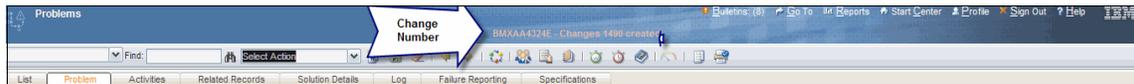

Figure 6-10 Change ticket number
4. After selecting this option, a message appears in the top menu bar with the change ticket number that was created for this problem. Refer to Figure 6-10.